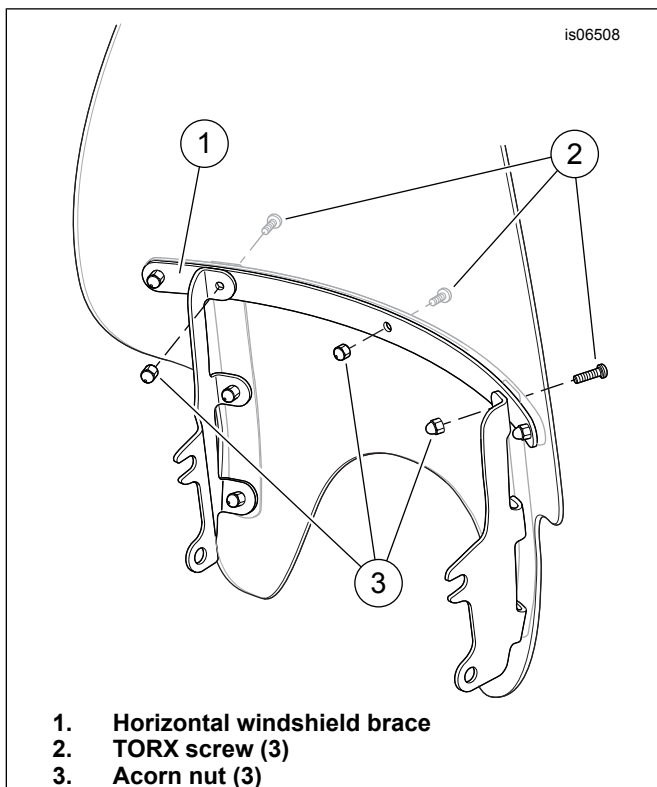

Figure 3. Remove Windshield Upper Fasteners (Typical)
2. See Figure 3. Holding the acorn nuts (3) on the rear side, remove the three **innermost** TORX screws (2) retaining the horizontal windshield brace (1). Keep the acorn nuts for installation. The screws can be discarded.